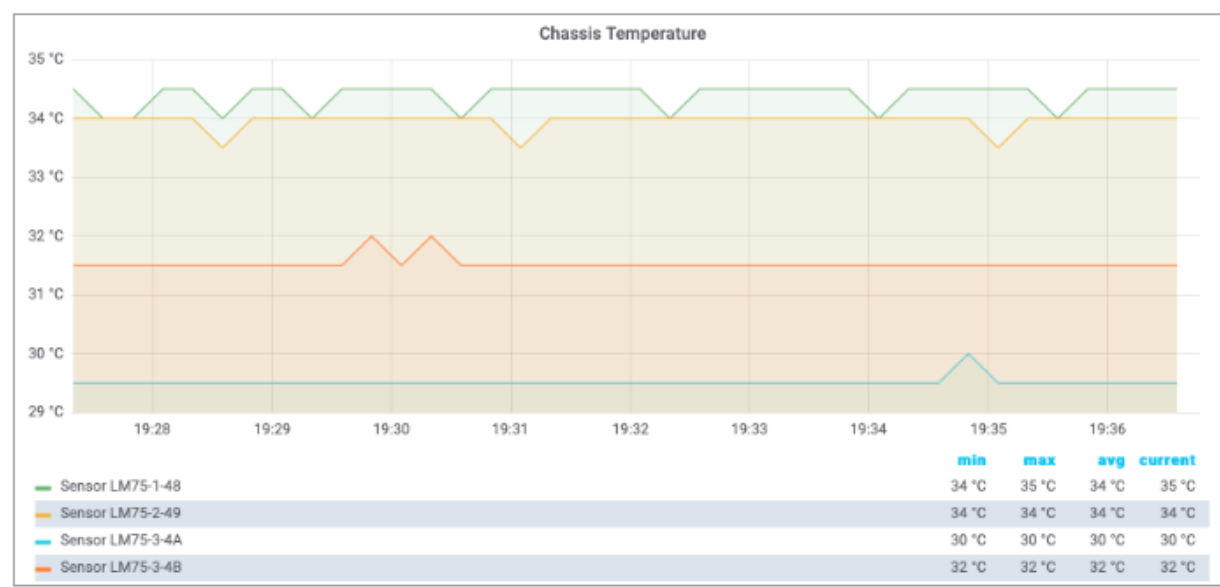

Figure 3. Chassis temperature values.
- The first rule does not fire an alert in case of a chassis temperature spike as depicted in Figure 3, because a spike does not satisfy the rule five times in a row.